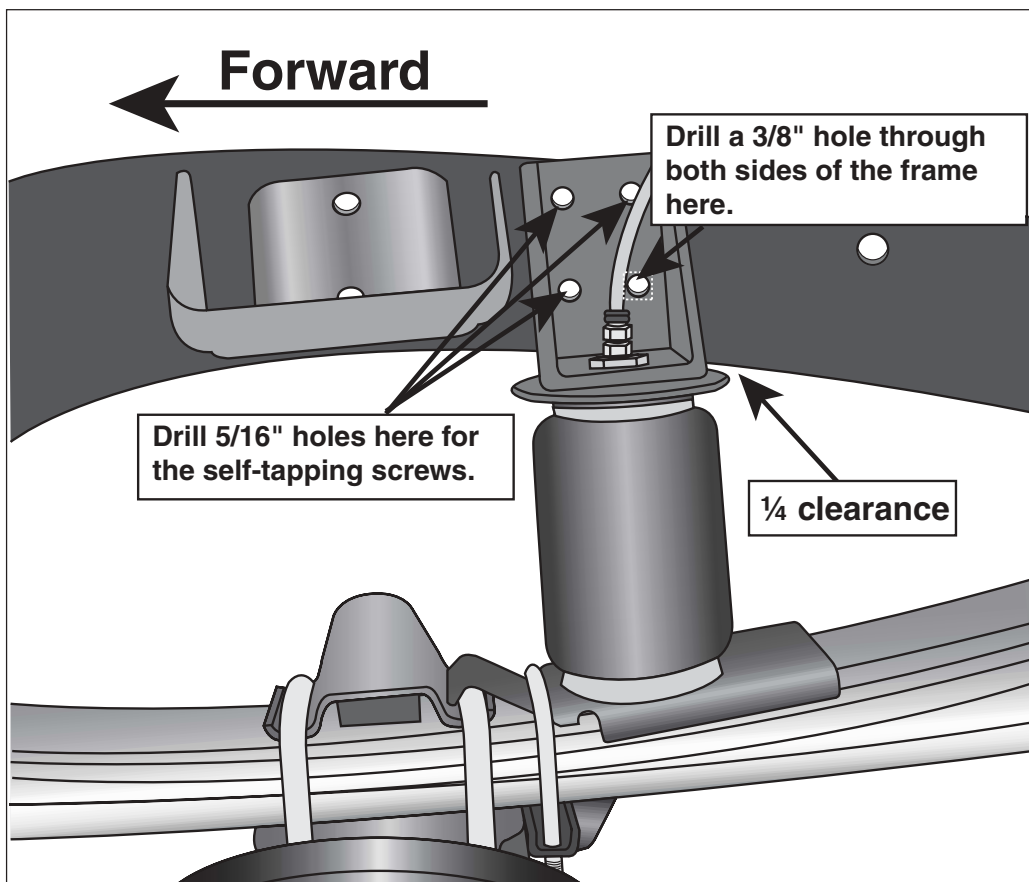

Figure 4
4. Ensure that there is at least $\frac{1}{4}$ " clearance between the roll plate and the closest part of the frame (Figure 4). The closer space will be rearward of the sleeve assembly.
6. Using the upper bracket as a template, mark any one of the holes on the upper bracket except the bottom rear hole (Figure 4).